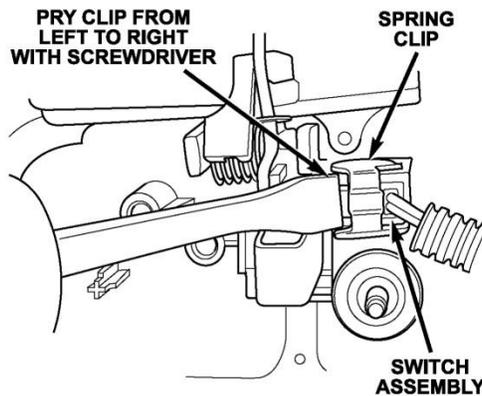

Figure 3
11. Remove the spring-loaded switch clip from the handle assembly by placing a flat blade screwdriver under the left edge of the clip and prying the clip to the right (Figure 3). CAUTION: Pry against the switch under the clip. Do NOT pry against the metal latch.